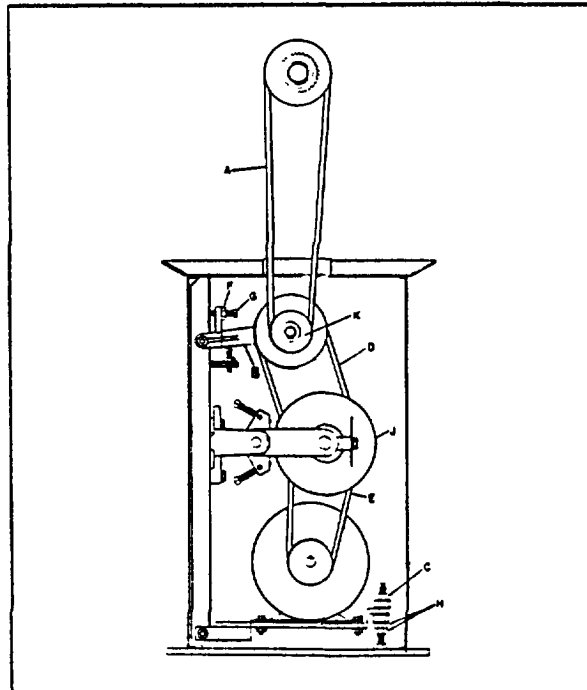

Fig. 33.
2. Unscrew nut (C) Fig. 33, on the motor mounting plate.
3. Raise the motor and remove lower variable speed belt (E) Fig. 33.
4. Raise the variable speed pulley (J) Fig. 33, by moving the variable speed control lever. Release tension on spindle belts (A) by loosening nut (F) and screw (G) Fig. 33. Remove spindle belts ((A) from jackshaft pulley (K). Then remove the upper variable speed belt (D).